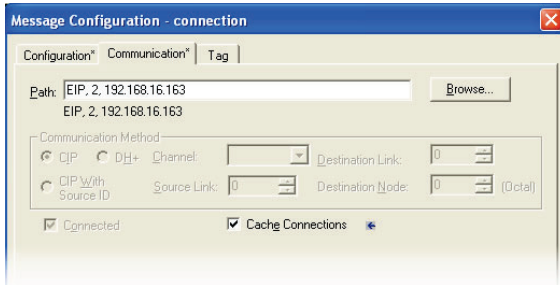

Figure 72: Setting the Communication Path
- d) “Communication” tab settings (refer to Figure 72):